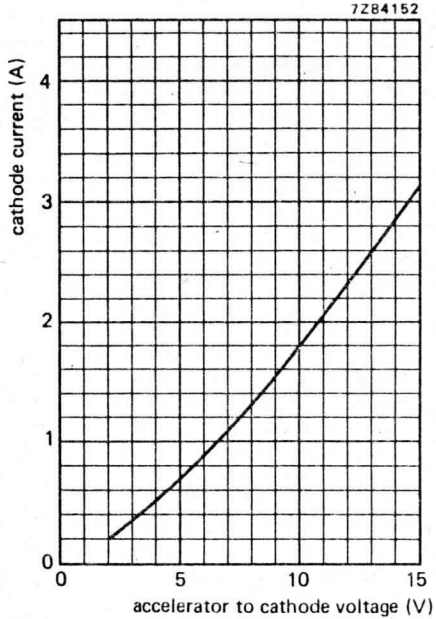

Fig. 4.
6. For cathode current (tolerance \pm 5%) versus accelerator to cathode voltage, see Fig. 4.